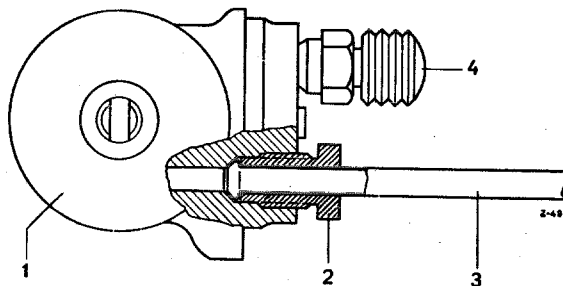

Fig. 42 — 6/2
In conjunction with this reduction in diameter of the rear brake wheel cylinders the brake line connection to the brake wheel cylinder has been modified. The hollow screw used previously has been superseded and the brake line (3) is screwed into the brake cylinder (1) directly by means of a cap screw (2) (Fig. 42 — 6/2). The brake lines have been modified accordingly.